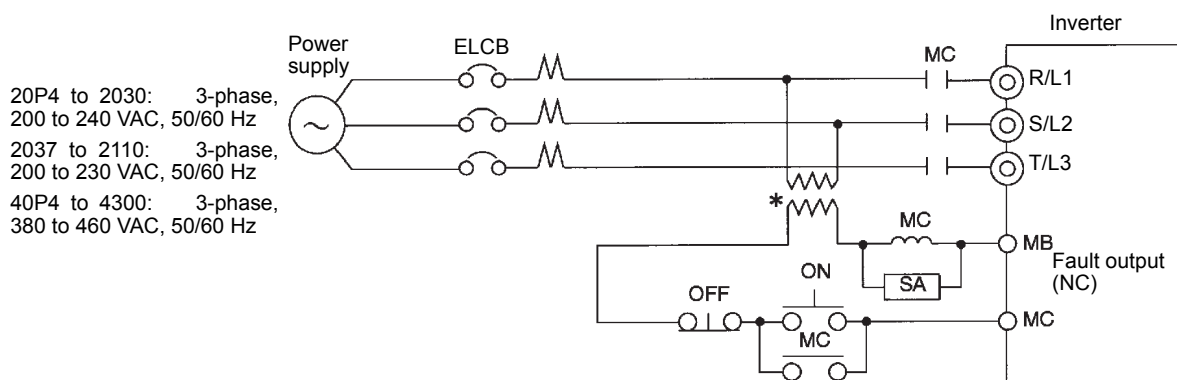

Fig 2.6 ELCB Installation
- If the same ELCB is to be used for more than one Inverter, or other devices, set up a sequence so that the power supply will be turned OFF by a fault output, as shown in *Fig 2.6*.